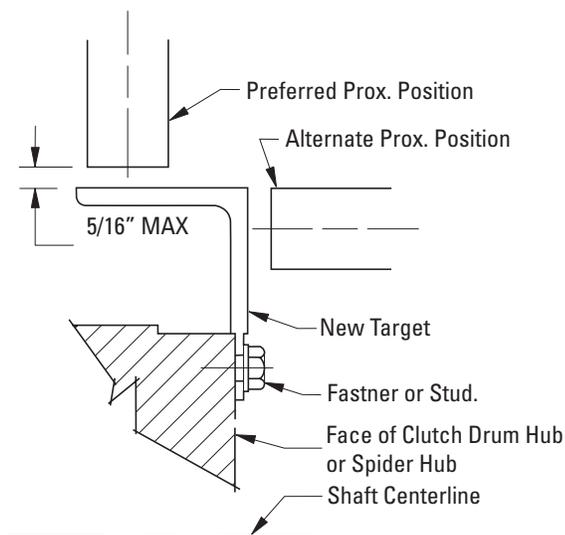
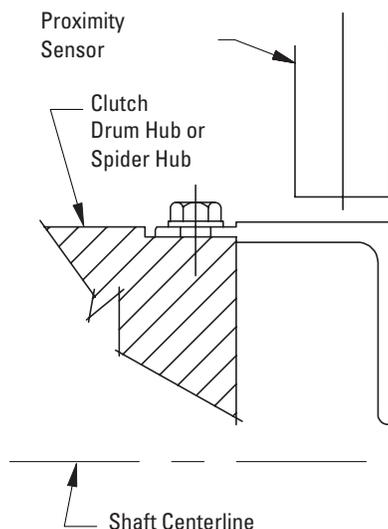

Figure 1
Figure 2
3.3.4 Orientation of the target is dependent upon ease of drilling and tapping of the hubs to accept the fasteners. Recommended position is similar to that shown in Figure 1, to allow for ease of clutch maintenance without disturbing the position of the proximity sensors. Target orientation shown in Figure 2 allows for radial fastener installation in the event that axial clearance is limited. Ensure that the target location will not interfere with guarding or adjoining bearing housings., etc. that may damage the target during operation.